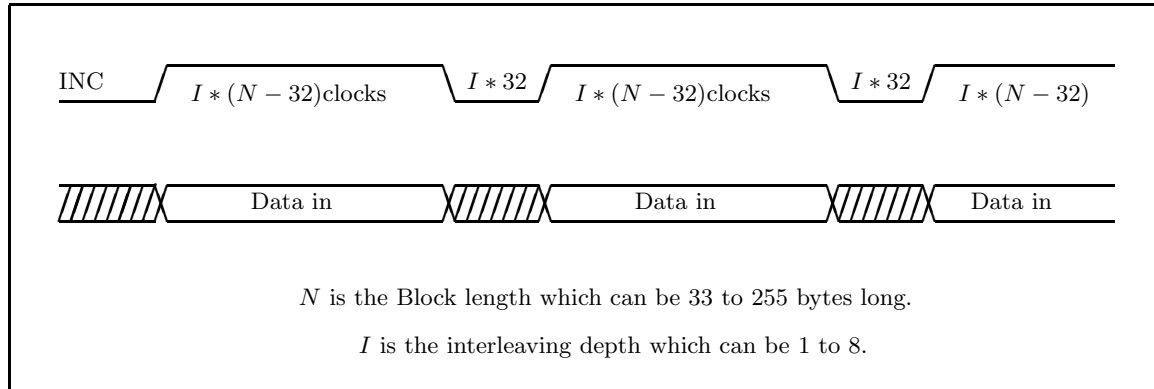

Figure 1: Timing Diagram for the INC signal.
INC is brought low again when the last message symbol has been clocked into the circuit. It must remain low at least $32I$ clock cycles, during which time the parity symbols will be clocked out of the circuit. This operation also fills the parity generator with zeros. If INC is held low longer than $32I$ clock cycles, zeros will appear on the data output bus (DO). Bringing INC high after it has been low for $32I$ or more clock cycles starts the processing of the next message. The timing for INC is shown in Figure 1.